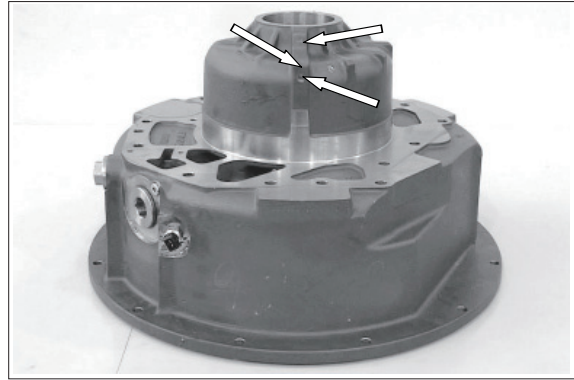

Figure 344
- ※ To install a new converter bell the finished bores (3EA) have to be sealed with plugs. Installation position, see arrow, figure 344.